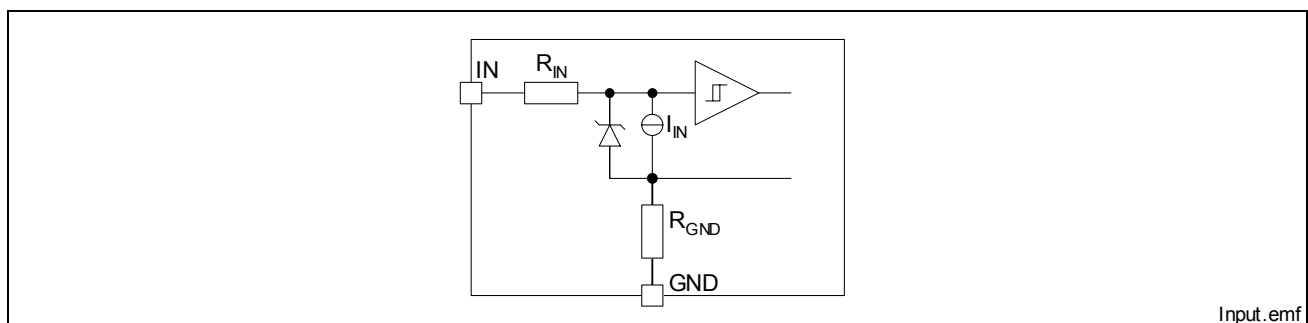

Figure 5 Input Circuit (IN1 and IN2)
**Figure 5** shows the input circuit of the BTS 5231GS. There is an integrated input resistor that makes external components obsolete. The current source to ground ensures that the device switches off in case of open input pin. The zener diode protects the input circuit against ESD pulses.